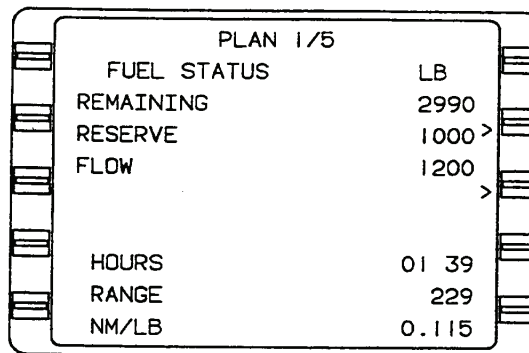

Figure 3A-64. Fuel Status Page
(1) *Fuel Planning.* Refer to Figure 3A-64.